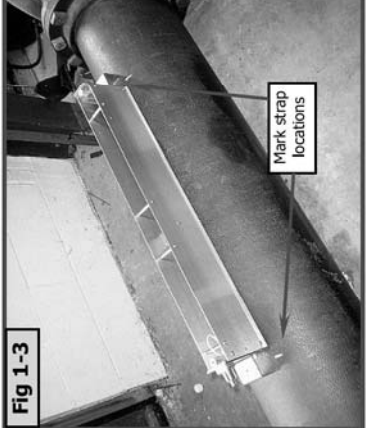

Fig 1-3
- Place the assembly on the pipe and mark the pipe at each strap location using chalk or a grease pencil. **See Fig 1-3.**